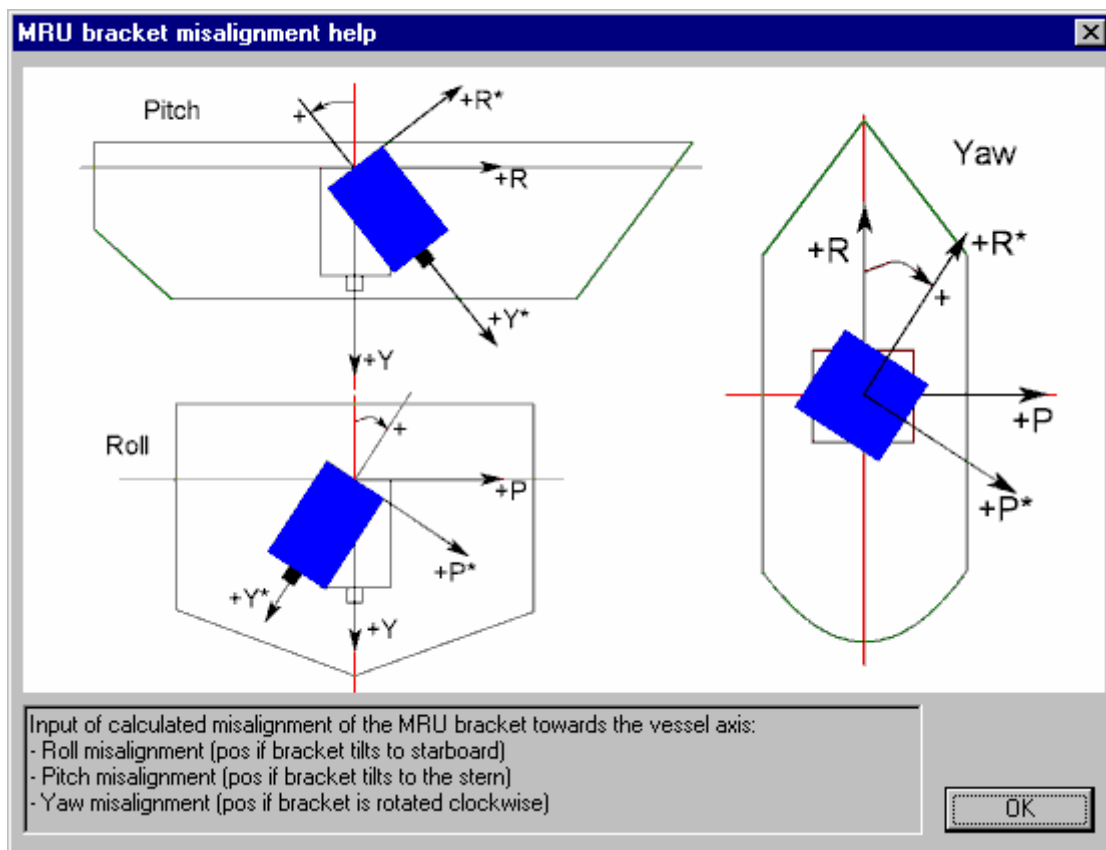

Figure 43 Positive offset angles rotations
- To get more help on the sign of the offset angles, press the **Show MRU bracket misalignment help** button and the window in Figure 43 will appear.